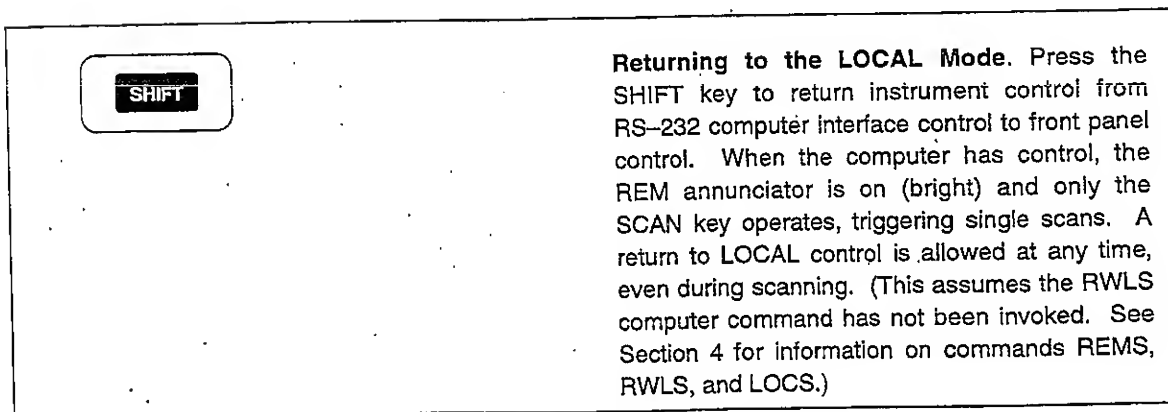
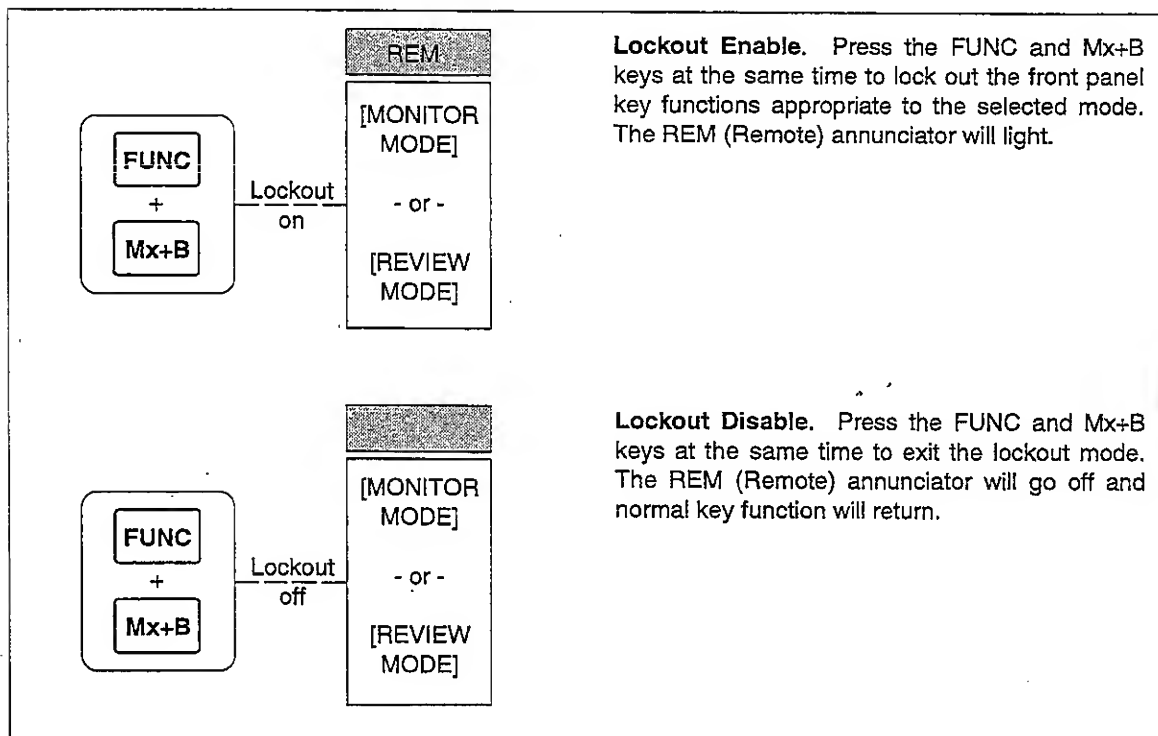

Figure 2-23. Returning to the LOCAL Mode
Figure 2-24. Front Panel Key Lockout Options
- Returning to the LOCAL Mode (Figure 2-23)
- Front Panel Key Lockout Option (Figure 2-24)
Perform the procedure in Figure 2-23 to return the instrument from the remote mode to the local mode. When the instrument is operated over the RS-232 computer interface, the computer can disable all front panel controls except the SCAN key, which lights the REM annunciator (bright). If the REM annunciator is dim, the front panel keys are locked out (see Figure 2-24).
Perform the procedure in Figure 2-24 to lockout the front panel key functions. There are three lockout features: